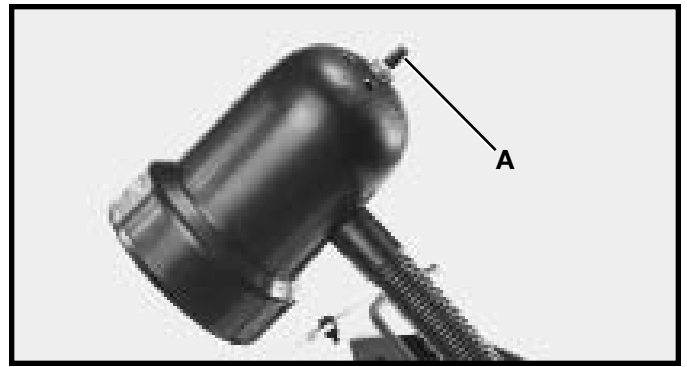

Fig. 12
The flexible lamp operates independently of the grinder. To turn the lamp on and off, rotate switch (A) Fig. 12.